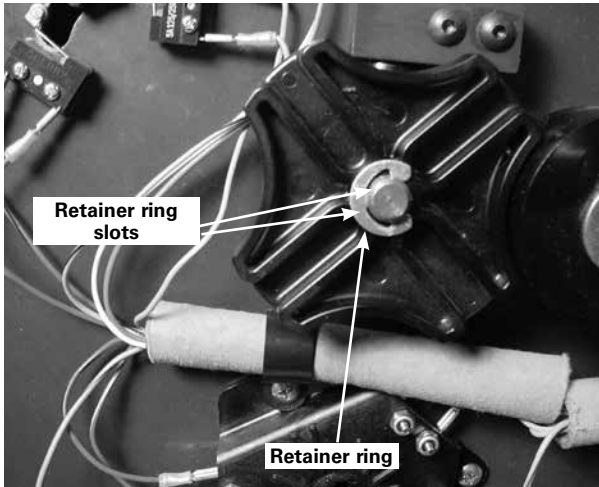

Figure 2. Retainer ring removal
1. Using a narrow blade standard screwdriver inserted into the retainer ring slots, pry off and remove the retainer ring. See Figure 2.